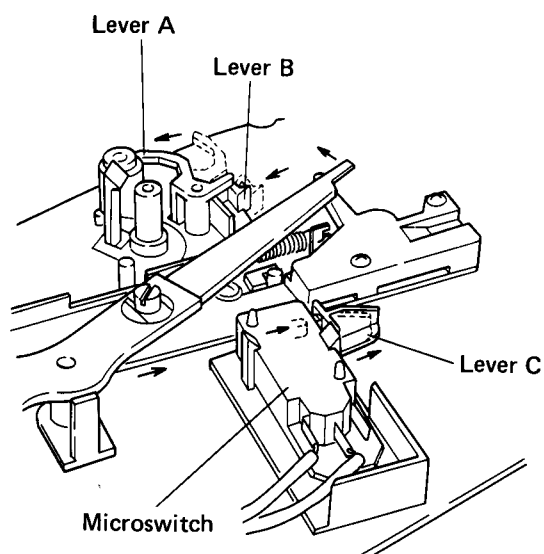

Fig. 4-3 Start of play
2. Lever A is moved over by pin A connected to this PU plate, resulting in lever B being unlocked (Fig. 4-3).
3. At the same time that lever B is unlocked, the microswitch is turned on (power on), and the motor commences to rotate (Fig. 4-3).